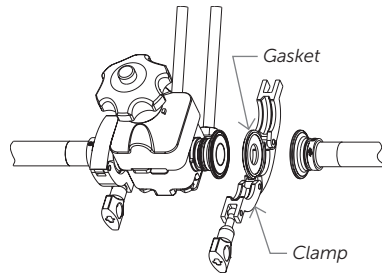

Figure 4.
3. Place the appropriate gasket between the two sanitary flanges, refer to Figure 4.